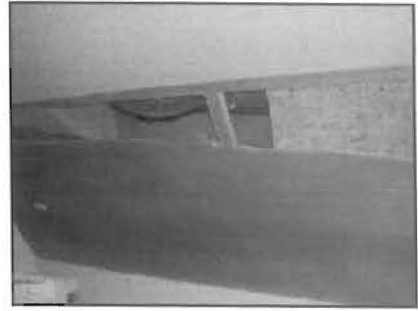

Figure 5
5. Pull back the insulation inside the cap to expose damaged wires. Remove and discard any damaged insulation. See Figure 5.